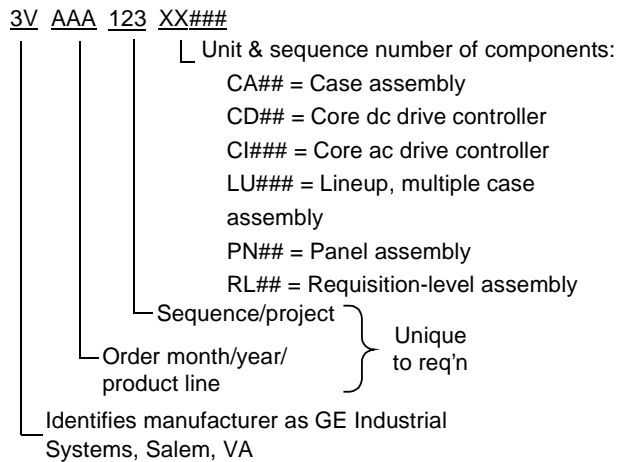

Figure A-2. Sample Drive Catalog (ML) No.
Each GE lineup, cabinet (panel)/case, and core unit has a unique identifying catalog number, also called the **part or material list (ML) number**. This number is structured to provide information about that equipment (see Figure A-2.) The catalog number links the equipment to its requisition, drawings, components, materials, specification item, and shipping documents.